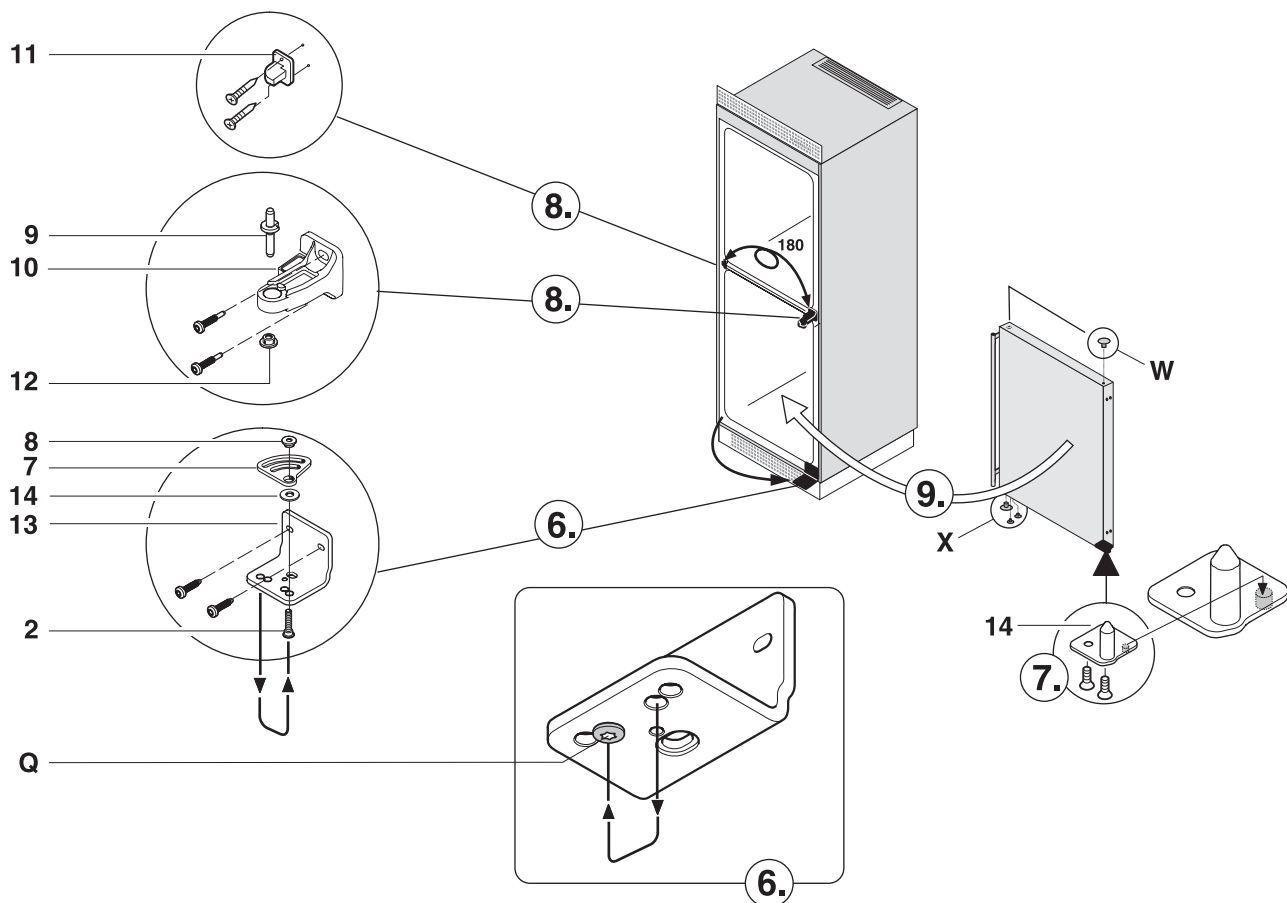

Figure 5
6. **Figure 5:** Unscrew the lower hinge (13).
- Remove screw (Q).
- Transfer hinge pin (2) to the opposite side.
- Transfer screw (Q) to the opposite side.
- Turn the stop (7) through 180° and position bushing (8) and washer as shown in the detailed drawing. The flat side of the stop must face forwards.
- Screw on hinge (13) on the new hinge side.
7. Install the door fittings as shown in **Figure 5**. Insert the plugs (X) as shown in the detailed drawing. Move plug (W) to the opposite side of the lower door.
8. Unscrew the center hinge (10) and cover (11), pull them off to the side and after turning them through 180°, slide them on again on the opposite side and secure them.
- 9. Place the lower door on the hinge pin (2) at the bottom.
- Pay special attention to the bushing (12) in the center hinge (10).
- Insert the hinge pin (9).